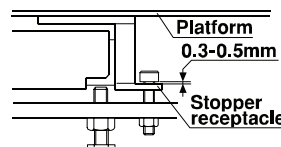

Figure 5
- (3) Be sure to attach the upper stopper because the load cell rebounds in reaction to shock and a load exceeding the allowable limit is applied in the upward direction. Attach the upper stopper so that the upper stopper clears the stopper receptacle by 0.3mm to 0.5mm when a load is applied to the platform. (See Figure 5.)